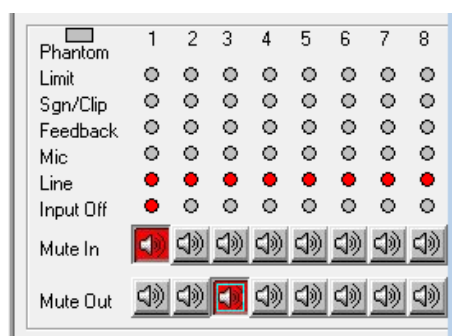

Fig. 31 Status display and muting
Regardless of the view selected, the indicators and controls on the right-hand side of the window are always available. They show the status and adjustments of the channels (fig. 31) just like the status LEDs (4) on the unit (see chapter 5.4).
Use the buttons "Mute In" to mute the inputs, and use the buttons "Mute Out" to mute the outputs (fig. 31). To mute or unmute a channel, click the appropriate button of the